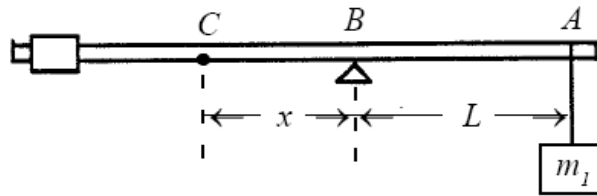

Figure 8.4. Loaded ruler balanced at B
4. Hang a mass m_1 of arbitrary value from point A near the other end of the ruler. Adjust the support point of the loaded ruler from C to B until the ruler is again in static equilibrium (see Figure 8.4). Record the value of m_1 and the moment arms L and x in Table 8.3 (the weight W of the loaded ruler is considered as acting at point C a distance x from the pivot).